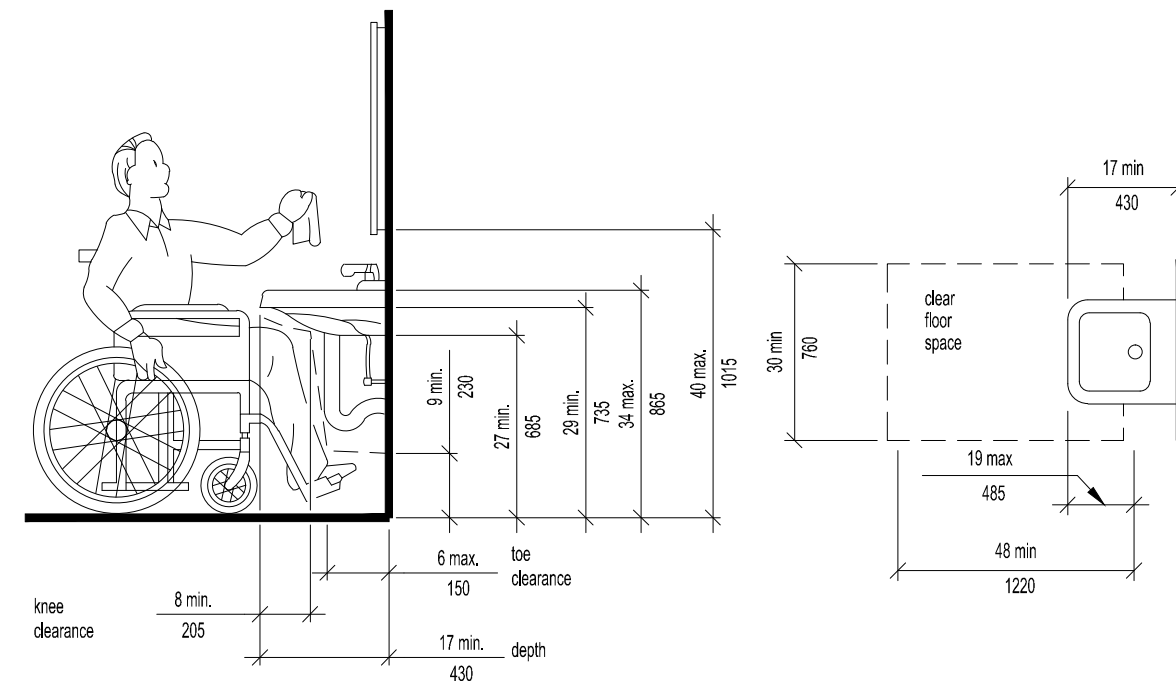

Fig. 31
4.19.2 Height and Clearances. Lavatories shall be mounted with the rim or counter surface no higher than 34" (865 mm) above the finish floor. Provide a clearance of at least 29" (735 mm) above the finish floor to the bottom of the apron. Knee and toe clearance shall comply with Fig. 31.
4.19.6 Mirrors. Mirrors shall be mounted with the bottom edge of the reflecting surface no higher than 40" (115 mm) above the finish floor (see Fig. 31).